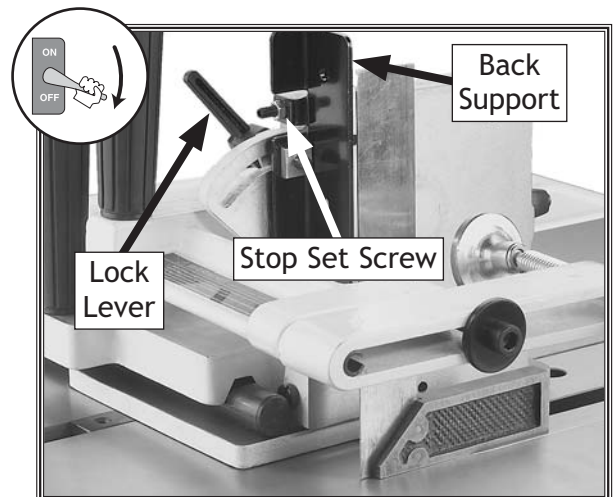

Figure 13. Adjusting the back support to be 90° with the saw table.
4. Loosen the jam nut on the positive stop set screw shown in **Figure 13**, then back off the set screw to allow adjustment to the back support.
5. Position a machinist's square flat on the table and up against the jig's back support, as shown in **Figure 13**.